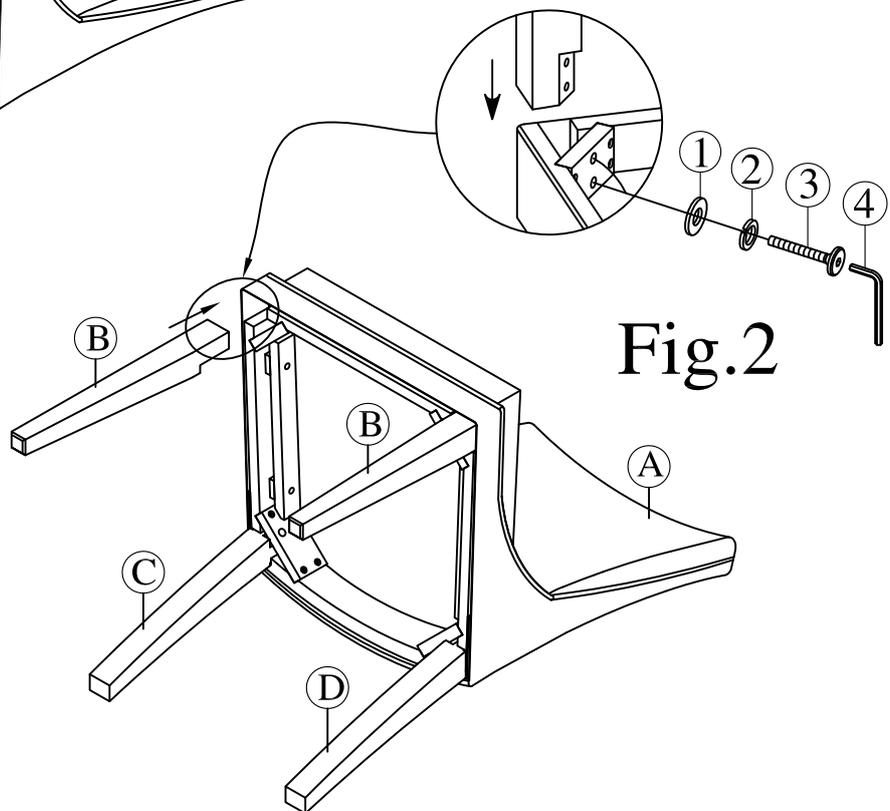

Fig.2
Step 2: Insert Front Legs (B) into Complete Cushion Seat (A), using the provided hardware as shown on Fig. 2.